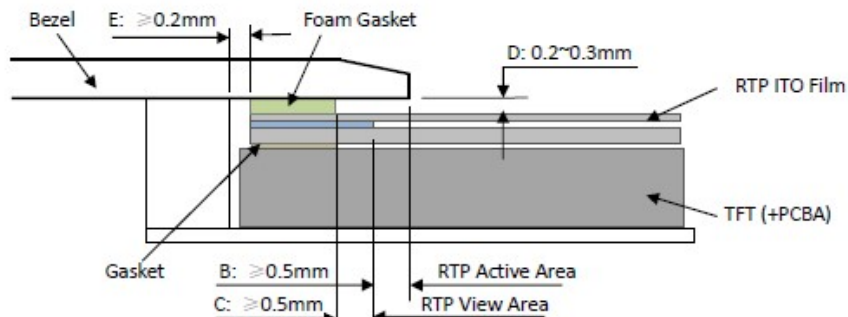

Figure 4
- It should bezel touching the RTP Active Area (A.A.) to prevent abnormal touch.It should left gab D=0.2~0.3mm in between. (Figure 4)
- Outer bezel design should take care about the area outside the A.A. Those areas contain circuit wires which is having different thickness. Touching those areas could de-form the ITO film. As a result bezel the ITO film be damaged and shorten its lifetime. It is suggested to protect those areas with gasket (between the bezel and RTP).The suggested figures are $B \geq 0.50\text{mm}$; $C \geq 0.50\text{mm}$. (Figure 4)
- The bezel side wall should keep space $E = 0.2 \sim 0.3\text{mm}$ from the RTP. (Figure 4)
- 为避免面框直接压在动作区 (A. A.) 上造成误动作，面框与电阻触摸屏 (RTP) 之间应留有一定的空隙 $D = 0.2 \sim 0.3\text{mm}$ 之间。(附图 4)
- 设计面框时，要注意用面框保护触摸屏四周的非保证操作区域，因为布线区域在此处形成一台阶，在此区域附近操作时 ITO Film 变形较大，容易导致 ITO 损坏而降低寿命。为保护 RTP 和避免误操作，在 RTP 与面框之间垫缓冲物 (Gasket)，我们建议设计面框应覆盖动作区的边缘，面框边缘到 V. A. 区的距离 $B \geq 0.50\text{mm}$ ；垫圈内边缘到 V. A. 区的距离 $C \geq 0.50\text{mm}$ 。(附图 4)
- 在设计面框与 RTP 组装时，应考虑到面框内侧与 RTP 外侧的间距 $E \geq 0.2\text{mm}$ 。(附图 4)